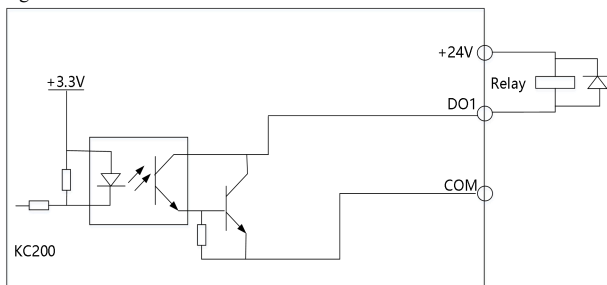
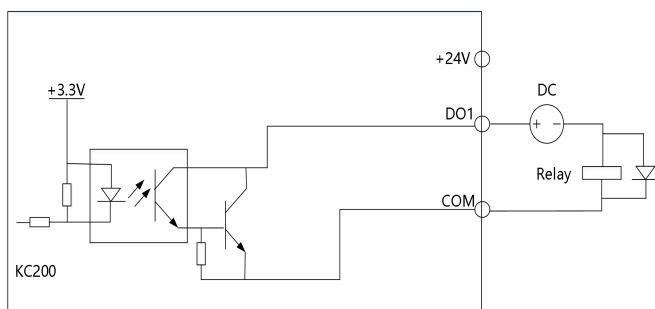

Figure 3-12 Multi-function output terminal wiring method 1
Figure 3-13 Multi-function output terminal wiring method 2
1. The multi-function output terminal DO1 can use the 24V power supply inside the AC drive. Please refer to Figure 3-12 for the wiring method.1.
2. The multi-function output terminal DO1 can also use an external power supply. Please refer to Figure 3-13 for the wiring method.
5. In Figure 3-12 and Figure 3-13, for non-24V relays, appropriate resistors should be selected according to the relay parameters and connected in series in the relay circuit.